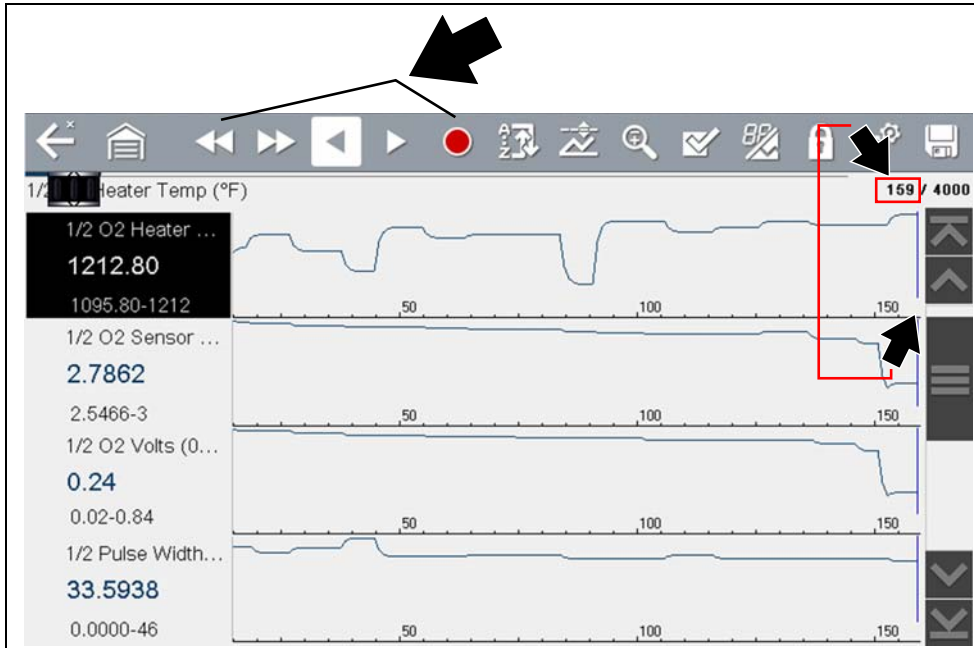

Figure 5-30
- Review control icons are displayed in the toolbar (Figure 5-30). Use the control icons to accurately move through the data and position the blue cursor.
- The blue (vertical cursor) (Figure 5-30) indicates your position in the data and is denoted by the current position value in the counter display. This cursor displays in all PIDs.